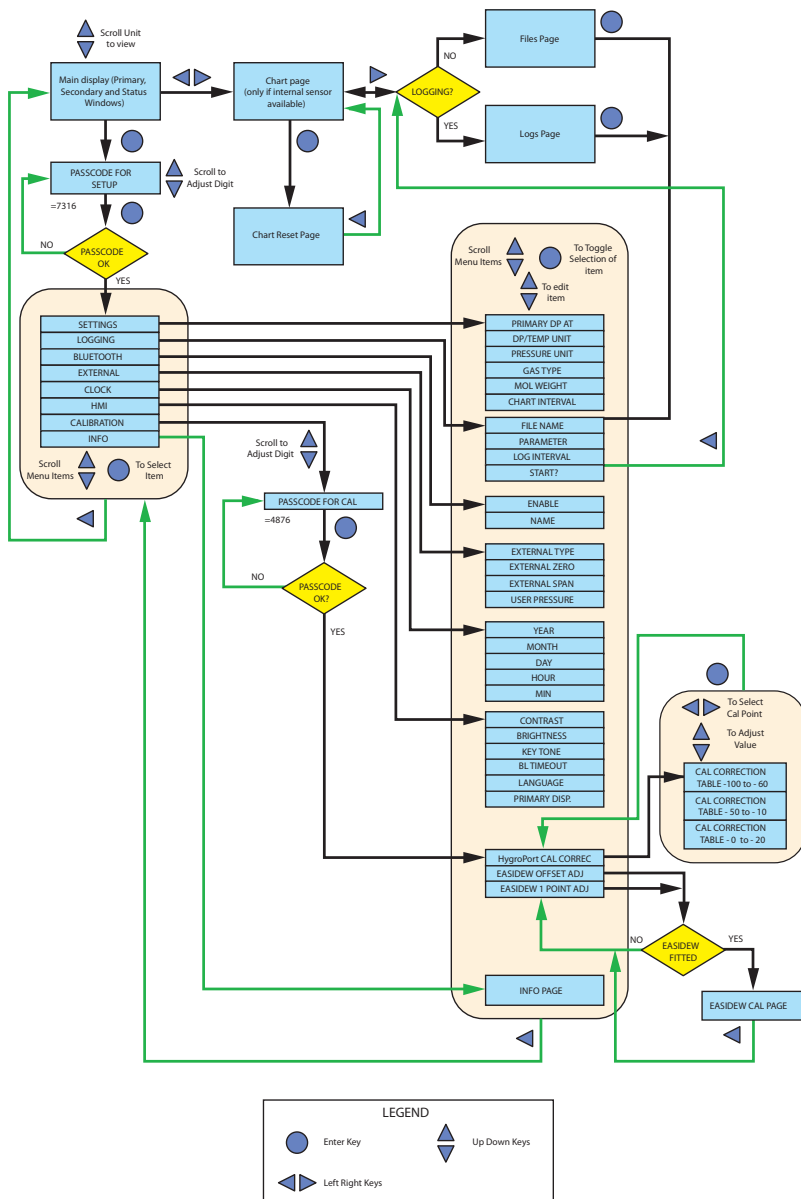

Figure 2.7 - HygroPort Menu Structure
2.6 Overall menu structure (Figure 2.7)